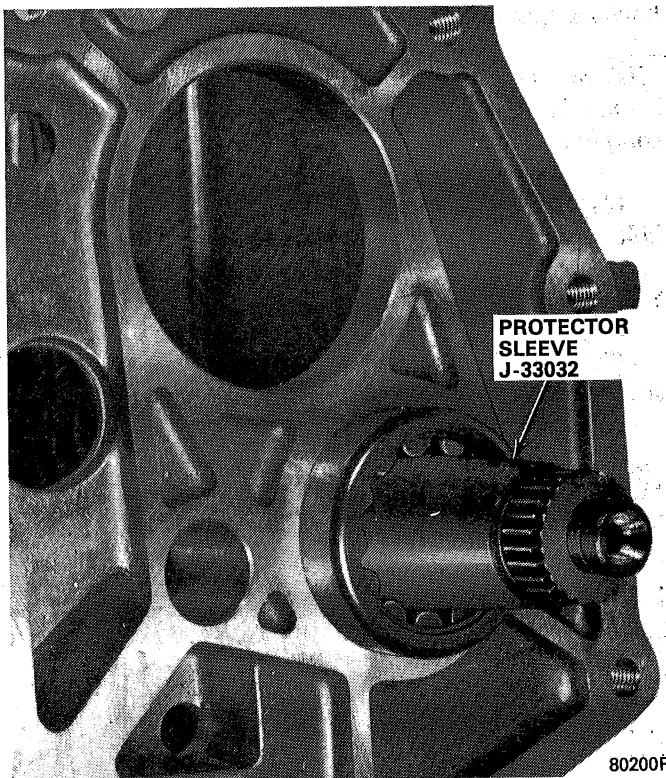

Fig. 2B-51 Rear Countershaft Bearing Sleeve Tool
(1) Coat output shaft and gear bores with transmission lubricant.
(2) Install and align first-second synchronizer sleeve on output shaft hub using reference marks made at disassembly.
(3) Install three first-second synchronizer inserts and two insert springs in first-reverse synchronizer sleeve. Engage tang end of each insert spring in same synchronizer insert but position open ends of springs to face 180 degrees from one another (fig. 2B-30). Be sure sleeve and hub are aligned using assembly reference marks.
(4) Install blocking ring and second gear on mainshaft.
(5) Install tabbed thrust washer and second gear retaining snap ring on mainshaft (fig. 2B-22 and 23). Be sure washer tab is properly seated in mainshaft notch.
(6) Install blocking ring and first gear on output shaft.
(7) Install first gear roll pin in output shaft (fig. 2B-31).
(8) Install first gear thrust washer.
(9) Install rear bearing on output shaft using Tool J-2995 and press (fig. 2B-32).
(10) Install third gear, third and fourth gear synchronizer hub inserts and sleeve on shaft. Hub offset must face forward.
(11) Install thrust bearing washer on forward end of output shaft.
(1) Coat countershaft front bearing outer cage with Loctite 601, or equivalent, and install countershaft front bearing flush with case using arbor press (fig. 2B-33).
(2) Coat countershaft tabbed thrust washer with petroleum jelly and install washer so tab engages corresponding depression in case.
(3) Tip transmission case on end and install countershaft in front bearing bore.
(4) Install countershaft rear bearing spacer (fig. 2B-18).
(5) Coat countershaft rear bearing with petroleum jelly and install bearing using installer Tool J-29895 and Sleeve J-33032 (figs. 2B-34 and 2B-51).
(6) Position reverse idler gear in case with shift lever groove facing rear of case and install reverse idler shaft from rear of case. Install retaining roll pin in shaft (fig. 2B-19).
(7) Install fifth speed-reverse lever, pivot bolt and retaining C-clip (fig. 2B-48). Coat pivot bolt threads with RTV sealer, or equivalent. Be sure to engage reverse lever fork in reverse idler gear.
(8) Install assembled output shaft in transmission case.
(9) Install front clutch shaft bearing on clutch shaft using Tool J-2995 and arbor press (fig. 2B-35).
(10) Coat 15 pilot roller bearings with petroleum jelly and install in clutch shaft (fig. 2B-14).
(11) Install thrust bearing and race in clutch shaft (fig. 2B-14).
(12) Install rear output shaft bearing race cap.
(13) Install fourth gear blocking ring on output shaft.
(14) Install clutch shaft in case and engage in third-fourth synchronizer sleeve and blocking ring.
(15) Install replacement oil seal in front bearing cap using Tool J-26625 (fig. 2B-36).
(16) Install front bearing race in front bearing cap. Do not install shims in front bearing cap at this time.
(17) Temporarily install front bearing cap. Do not apply sealer at this time.
(18) Install fifth speed driven gear and retaining snap ring on rear of output shaft (fig. 2B-45).
(19) Install countershaft rear bearing spacer and retaining snap ring (fig. 2B-50).